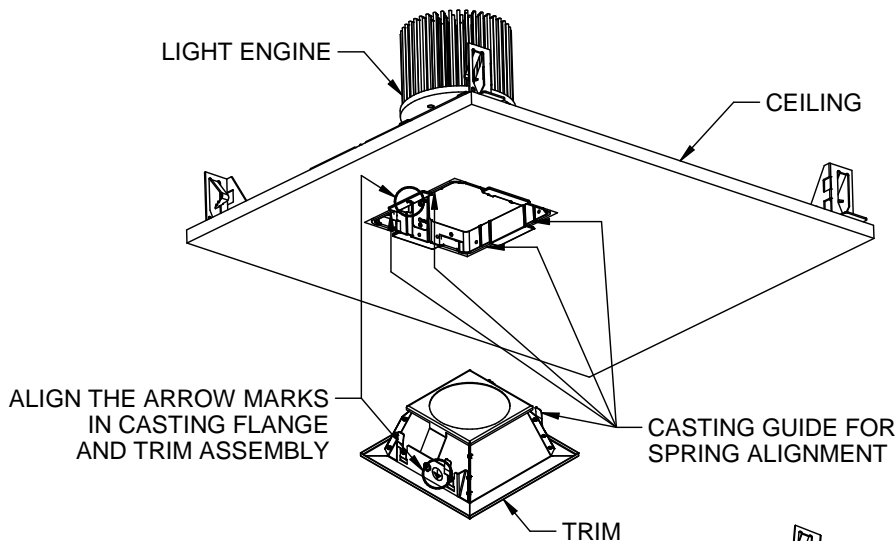

FIG 1.1
1. Install the lower trim assembly to fixture after the housing and light engine assemblies are installed in the finished ceiling by aligning the arrow marks embossed in the cast flange and trim assembly. Insert the springs into the appropriate casting guide for spring alignment and gently push it against the ceiling. FIG 1.1 & 1.2.